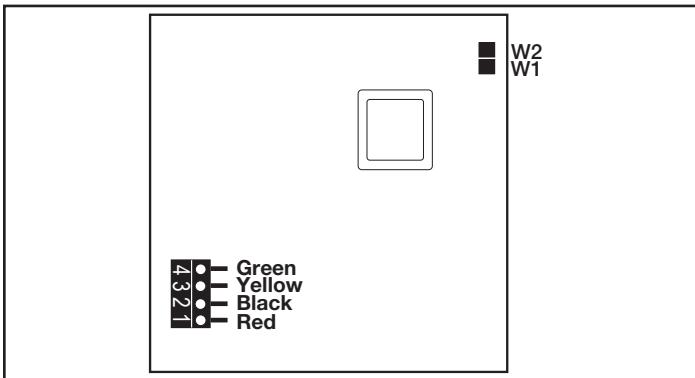

Figure 25. OneTouch PCB - Back View
- Wire the 4-conductor cable to the red, 4-pin terminal bar (see Figure 25). Push the 4-pin terminal bar onto the back of the OneTouch PCB. Place the PCB with LCD and buttons back into the box. Insert the screws and hand tighten. ***Do not overtighten.*** Snap the faceplate into place.